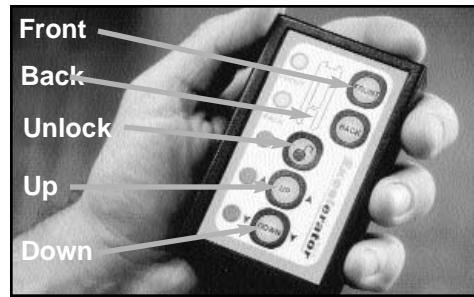
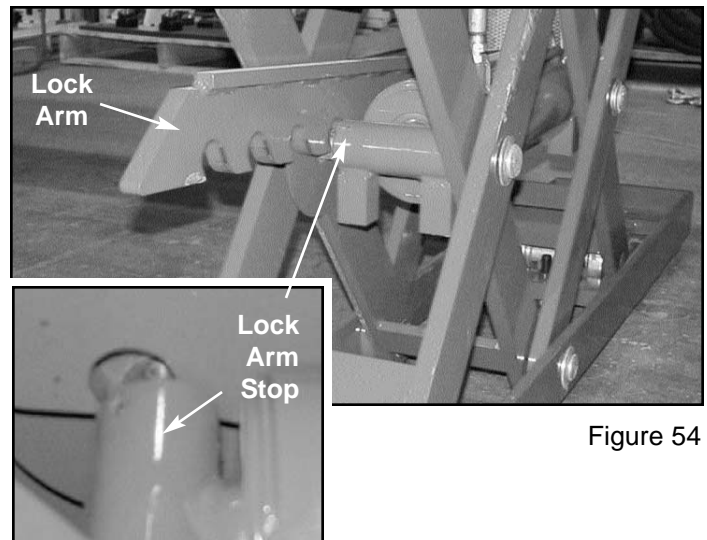

Figure 53
Figure 54
1. Press “front” and “back” buttons on remote control. (See Figure 53.)
2. Press “up” button (see Figure 53) to disengage front and rear lock arms from their lock arm stops. See Figure 54 and its inset.